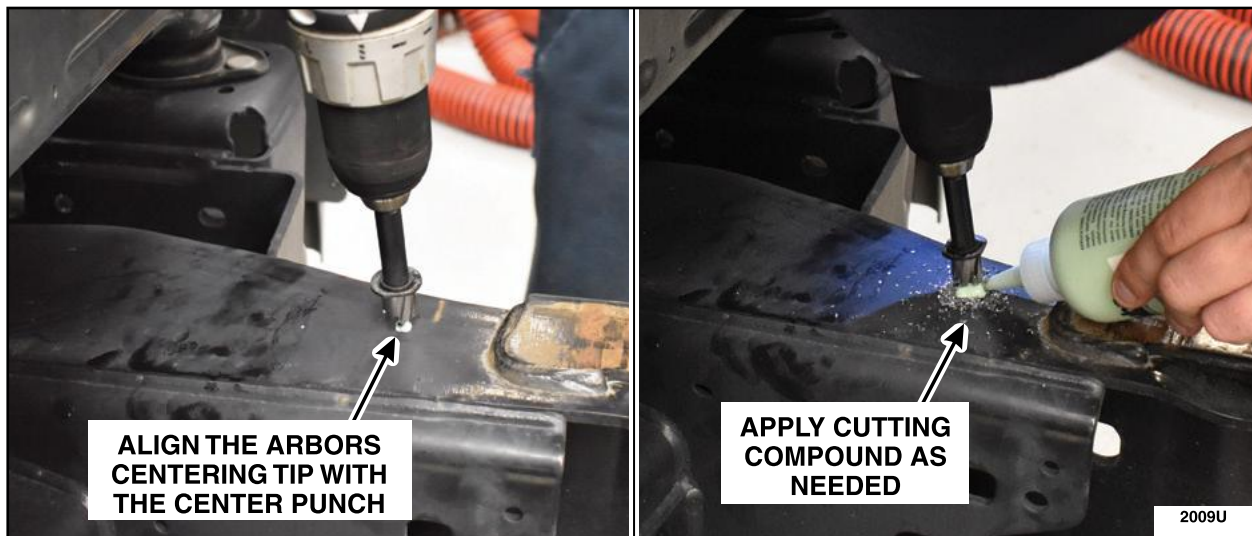

FIGURE 14
13. Using a drill (set to the bits recommended drill speed) and a 15mm Rotabroach bit, such as the Hougou or Blair 15mm High Speed Steel Annular Cutter and a Rotabroach Arbor, drill the two (2) holes that were just center punched in the previous Steps. See Figure 14.